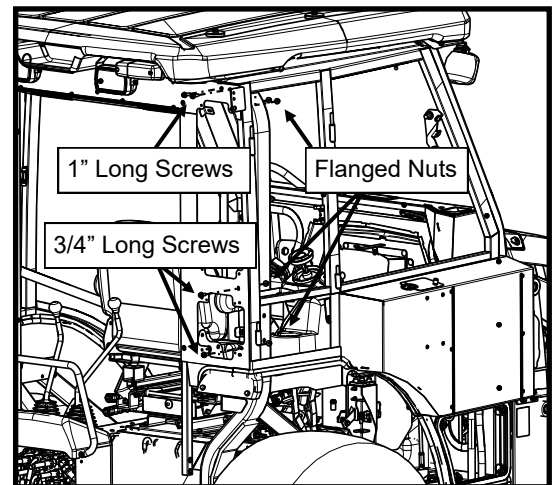

Figure 6.4: Side Frame to Rear Panel Bolts
6.4 Install two 1" long bolts and two nuts through the rear panel, upper mount, and side frame. (see Figure 6.4). On the lower section of the rear panel, fasten the 3/4" long bolts and nuts, with the lower most bolt mirroring what was done on the left side frame. Leave hardware loose.